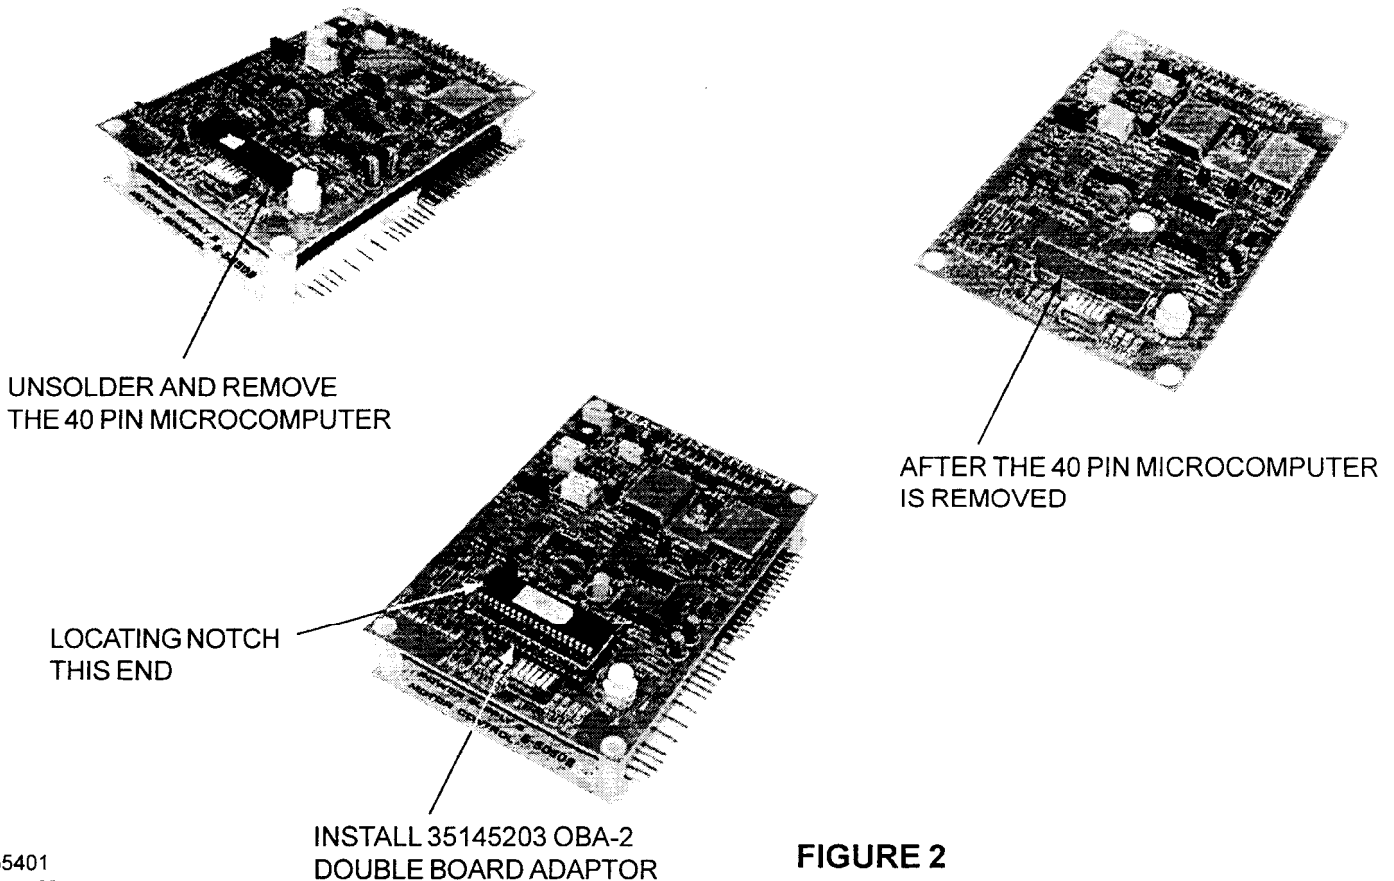

FIGURE 2
4. Locate, unsolder, and remove the 40-pin microcomputer from the Logic Board. *See Figure 2.*
5. Install the new 35145203 OBA-2 adaptor board onto the Logic Board where the microcomputer was removed. Be sure that the locating notch on the end of the new microcomputer lines up with the locating notch on the printing on the circuit board. *See Figure 2.* Solder the adaptor in place.